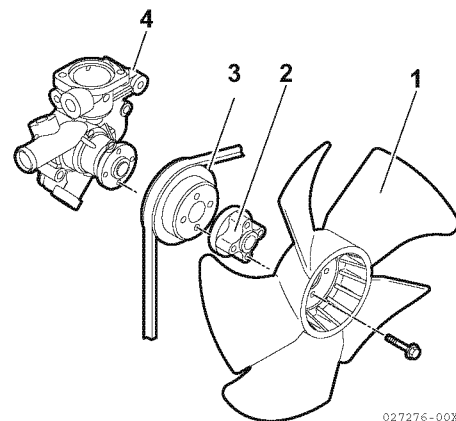

Figure 8-4
4. Remove the engine coolant fan guard (if equipped), engine coolant fan (**Figure 8-4, (1)**), spacer (**Figure 8-4, (2)**) and engine coolant pump V-pulley (**Figure 8-4, (3)**).
6. Remove the engine coolant pump (**Figure 8-4, (4)**). Discard the gasket.